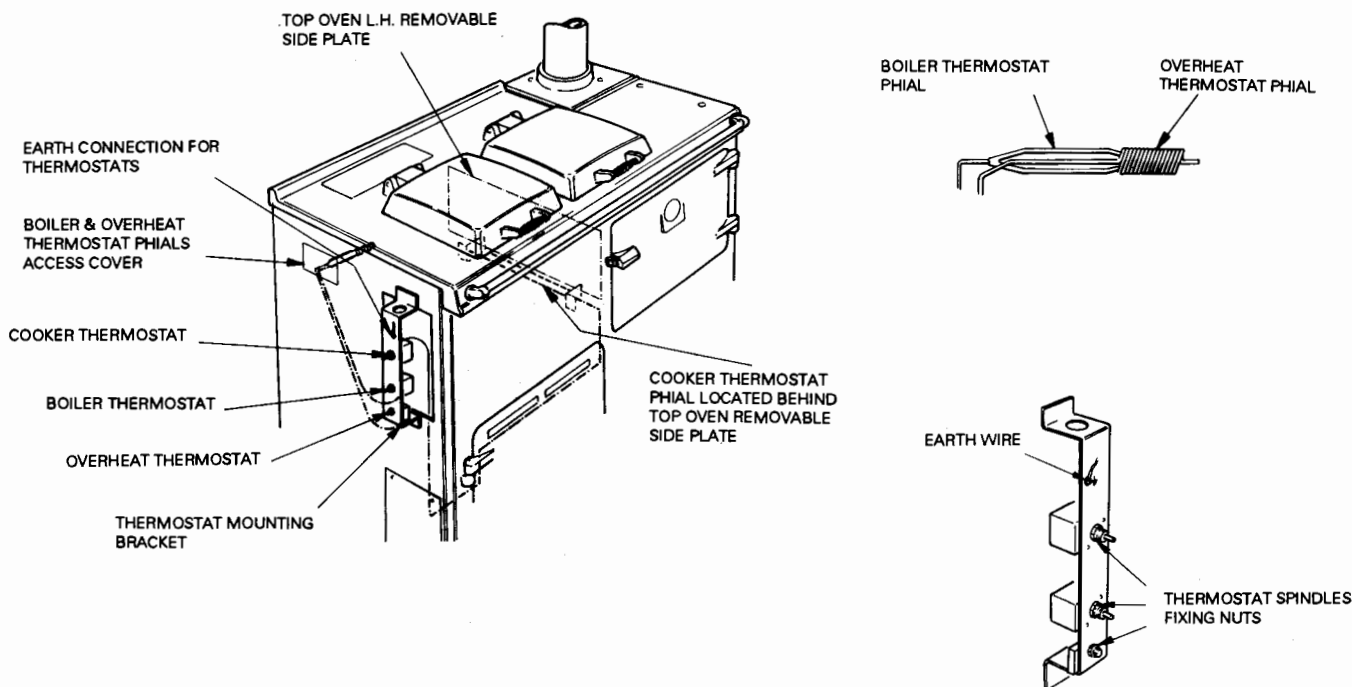

Fig.17 THERMOSTATS MOUNTING AND PHIALS LOCATIONS
4.2 Thermostat Replacement(see fig 17).